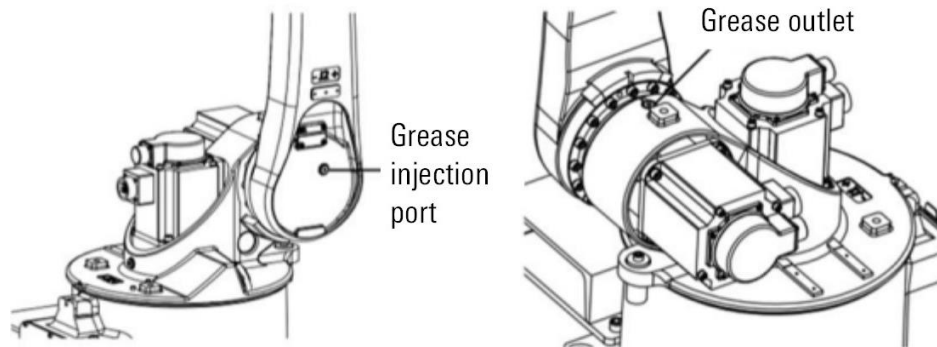

Figure 12-11 Replace the lubricating grease of J2 axis reducer
- Step4. Remove the grease outlet sealing plug and sealing gasket, as shown in Figure 12-11.